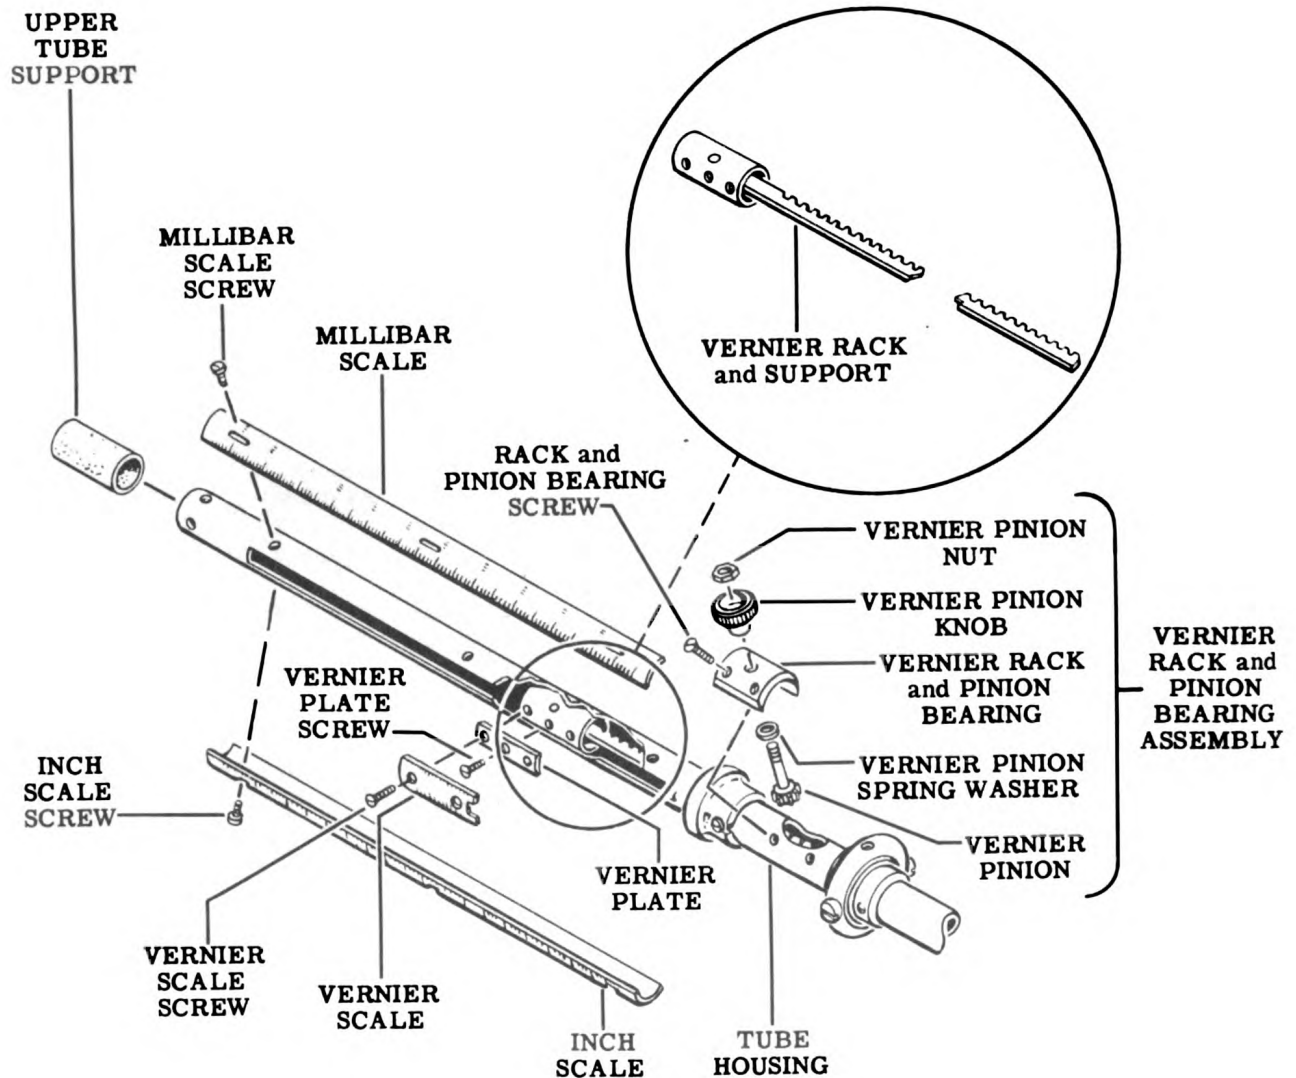
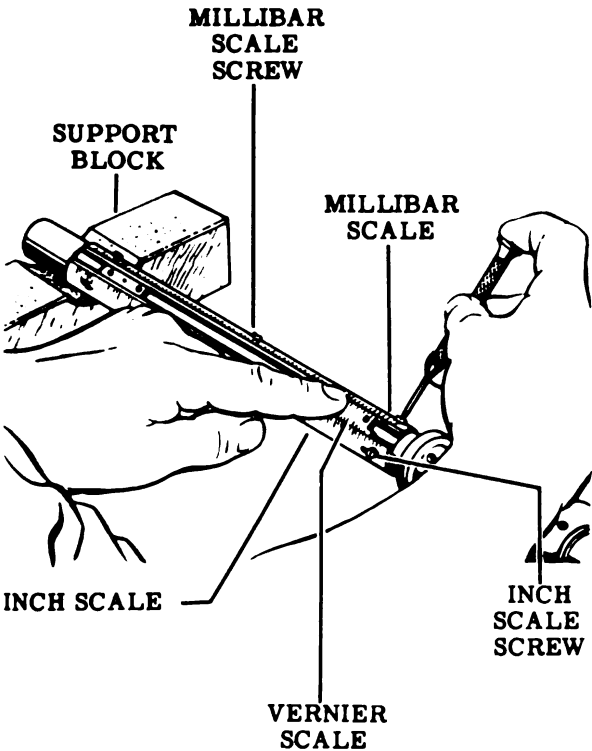
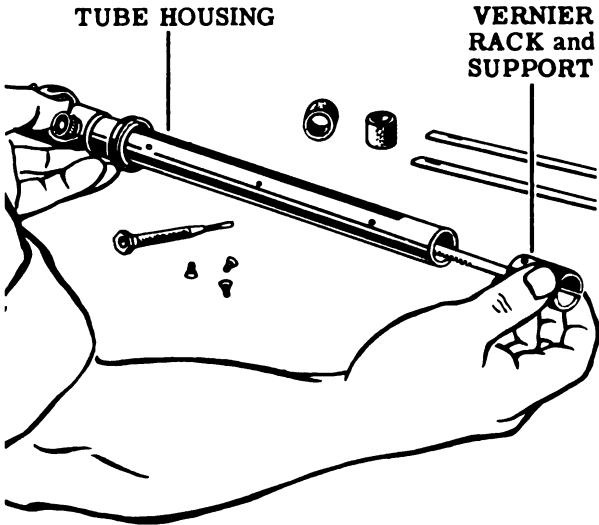
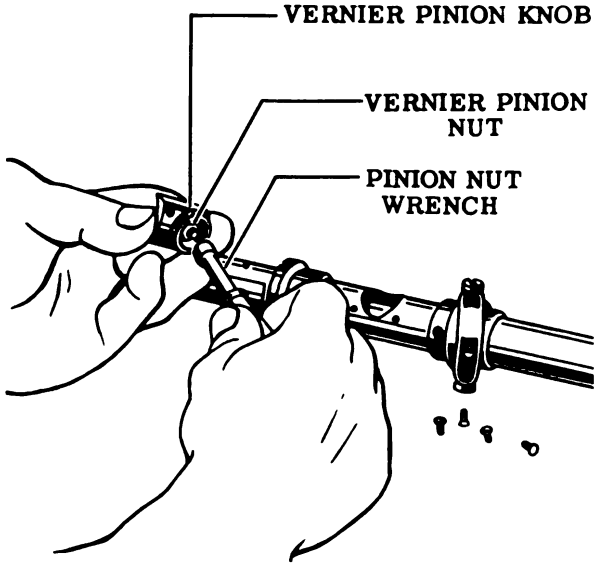

Figure 11
Figure 12
Figure 14
Figure 15
22. Remove the three millibar scale screws. Then lift the millibar scale from the tube housing. See the exploded view, Fig. 11, and also Fig. 12.
23. Remove the three inch scale screws, then lift the inch scale from the tube housing, in a similar manner to the millibar scale. See the exploded view, Fig. 11.
from inside the tube housing. See the exploded view, Fig. 11.
25. Remove the two vernier scale screws and lift the vernier scale off the vernier plate. See the exploded view, Fig. 11.
26. Remove the vernier plate screw and lift off the vernier plate. See the exploded view, Fig. 11.
28. Withdraw the vernier rack and support from the end of the tube housing. See Fig. 14 and the exploded view, Fig. 11.
29. Remove the four rack and pinion bearing screws. Then lift the vernier rack and pinion bearing assembly out of the tube housing. See the exploded view, Fig. 11.
30. Using the pinion nut wrench (Tool No. 4) remove the vernier pinion nut from inside the vernier pinion knob. See Fig. 15, and the exploded view, Fig. 11. See the "Special Service Tool List" in Section VIII for details of the special tool used here.
from the vernier rack and pinion bearing. See the exploded view, Fig. 11.